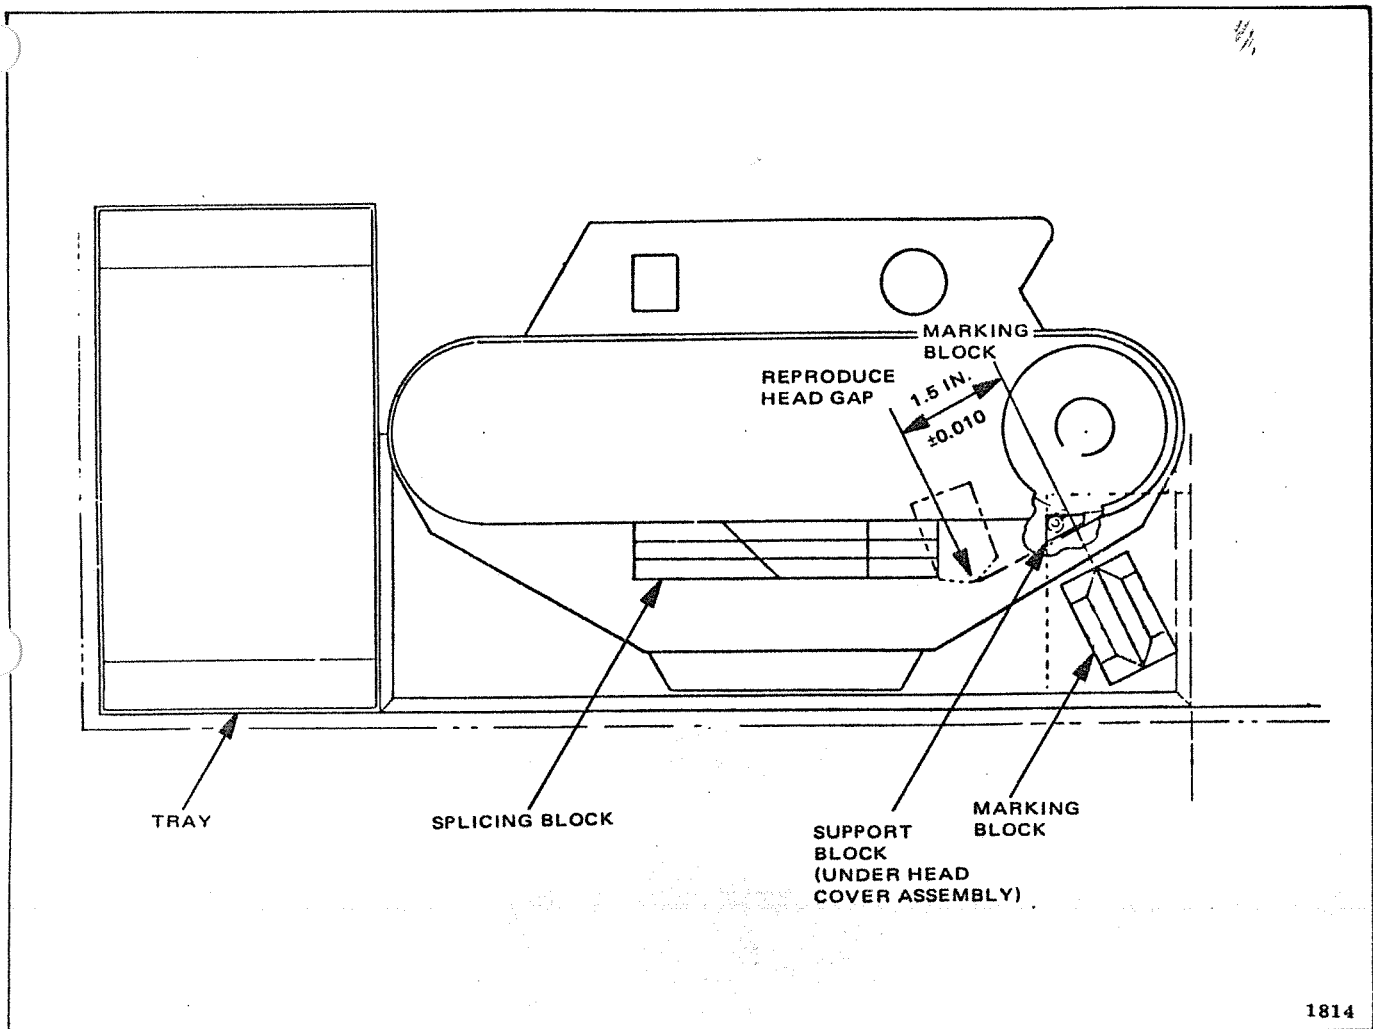

Figure 6. Support Block Mounting, Location
31. Align marking block V 1.5 (± 0.010) inch from reproduce head gap (see Figure 6).